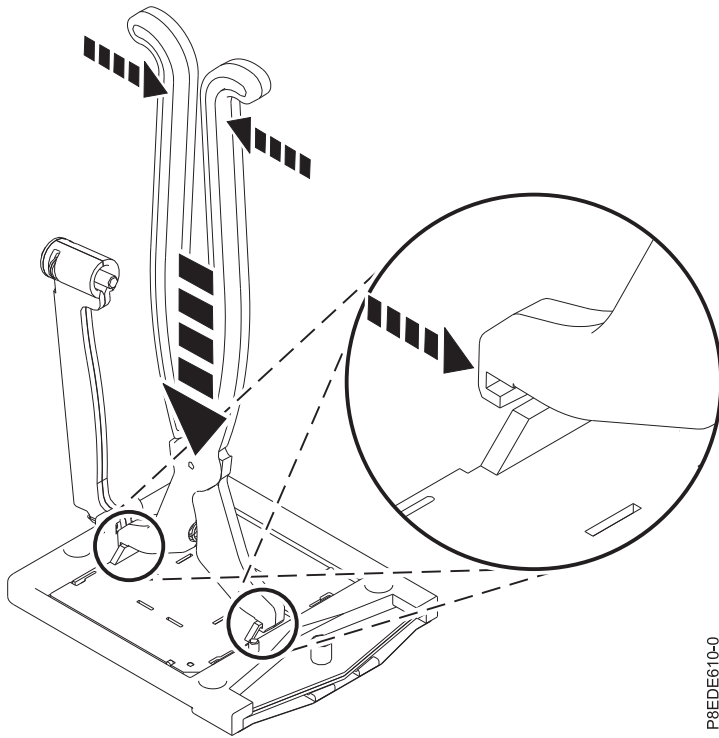

Figure 13. Removing the system processor socket cover
- a. Grasp the socket cover tabs with the supplied cover removal tool (part number 00FX605). Squeeze the removal tool handles. Then, lift the cover straight up. See Figure 13 on page 15.